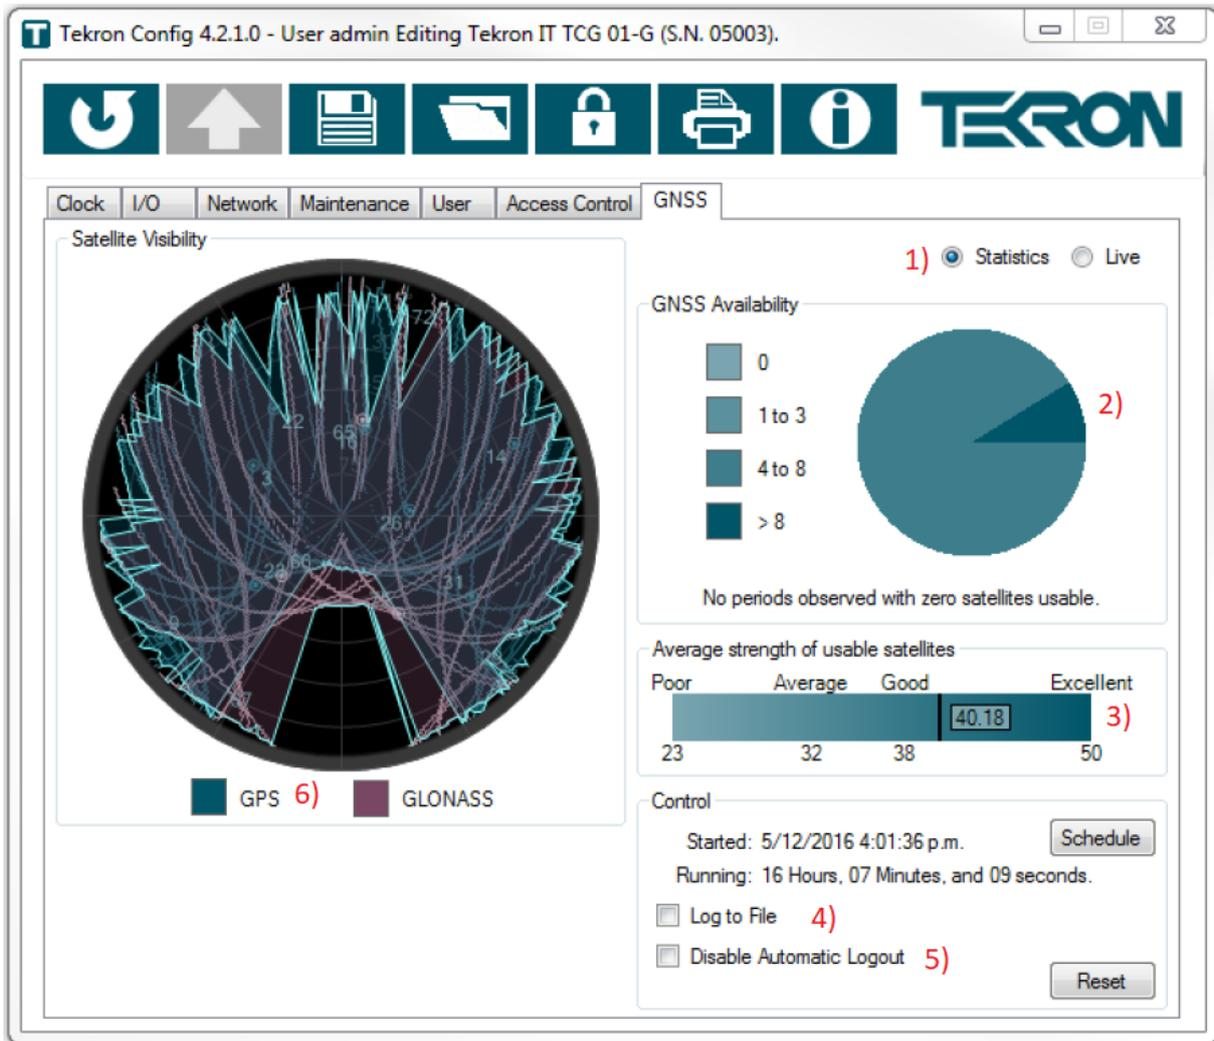

Figure 37 – Satellite statistics tab showing satellite availability
To take a 24-hour satellite recording, navigate to the GNSS (GPS) tab on the configuration tool (Figure 37) and click the Statistics Button (point 1 in red). Click the "Disable Automatic Logout" (5) box and leave the configuration tool running on the PC connected to the clock for a 24-hour period.
Gaps in the satellite plot show areas where the clock cannot see satellites. This could be because of an obstruction, or in the case of the plot in Figure 37, an area where satellites do not orbit such as the North or South Poles (plot taken in New Zealand). Reviewing the satellite plot gives indications of potential issues with the antenna installation, should there be large gaps in the satellite map.